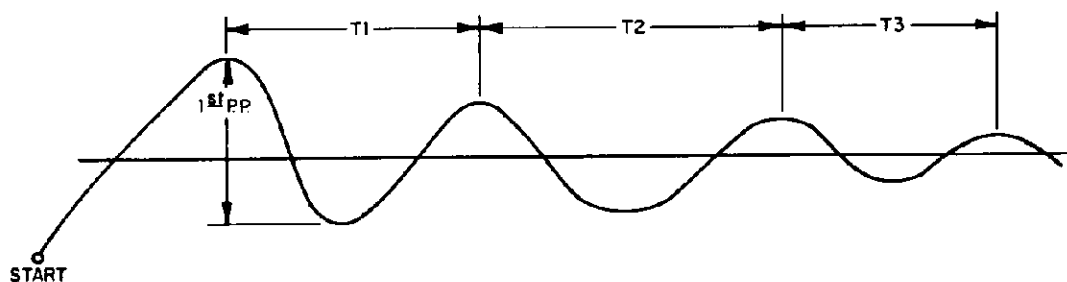

Fig. 1-Use 3 or more excursions in step 2.
- 2.) Obtain Heating Data (in Lev 1). Refer to Fig. 1: